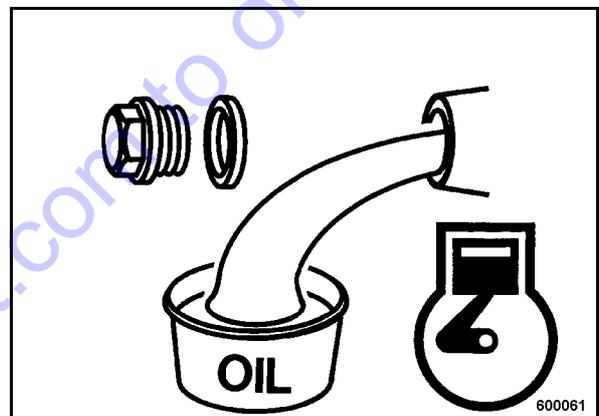

Fig. 40
- Catch running out oil (Fig. 40).